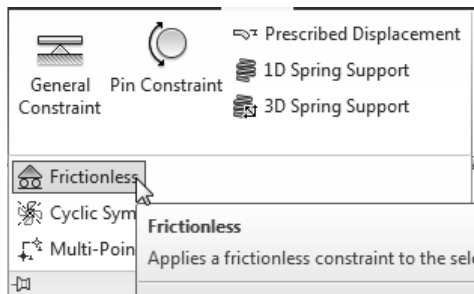
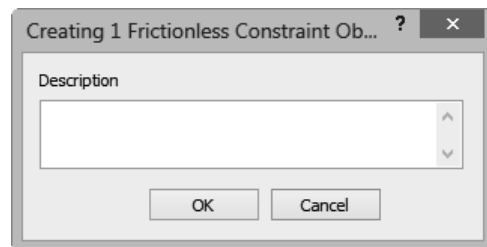

Figure 8-86 The expanded **Constraints** panel of the **Setup** tab
Figure 8-87 The **Creating Frictionless Constraint Object** dialog box
5. Choose the **Frictionless** tool from the expanded **Constraints** panel, refer to Figure 8-86; the **Creating Frictionless Constraint Object** dialog box is displayed, as shown in Figure 8-87.